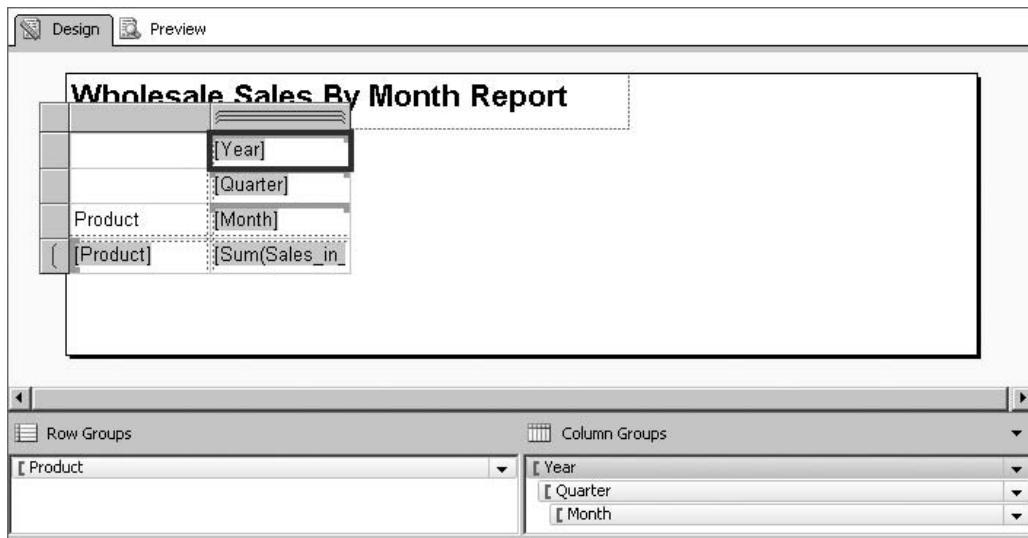

Figure 16-26 The report layout for the Wholesale Sales By Month Report
- The report layout should appear as shown in Figure 16-26.